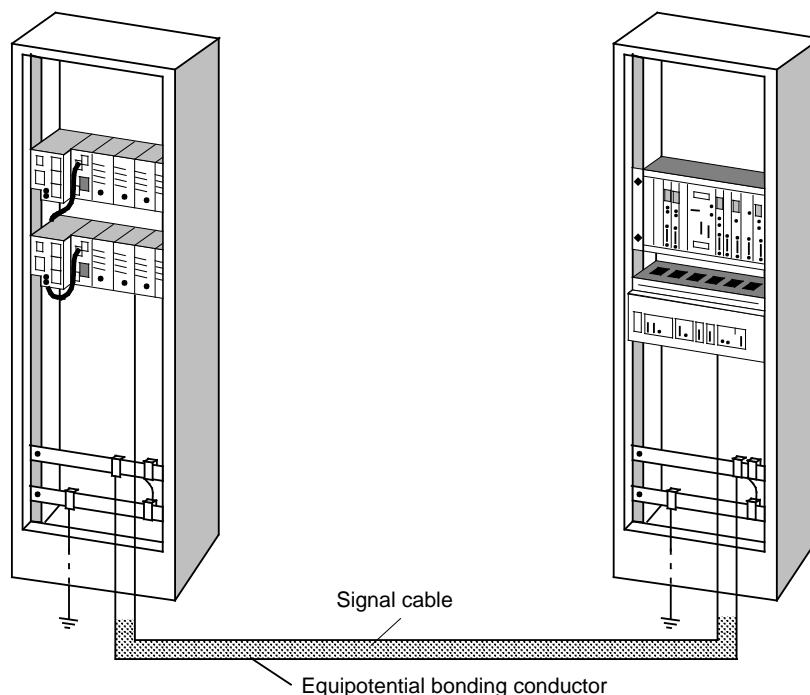

Figure 3-42. Laying Equipotential Bonding Conductor and Signal Cable
- The equipotential bonding conductor should be laid in such a way as to achieve a relatively small contact area between equipotential bonding conductor and signal cables (see Figure 3-42).